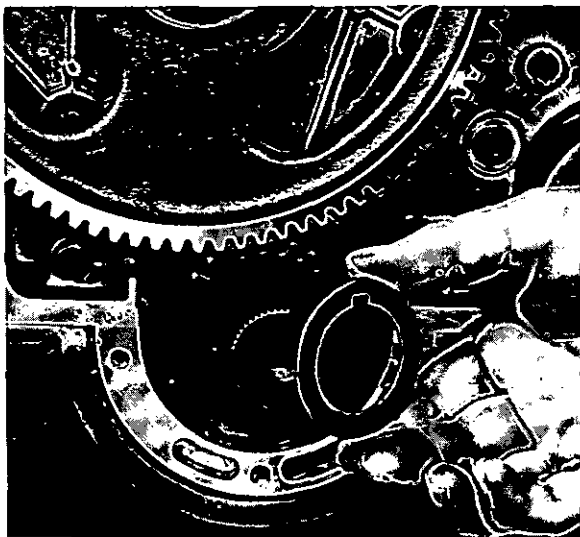

Fig. G.13
10. Where necessary, fit crankshaft pulley spacer washer (Fig. G.13).